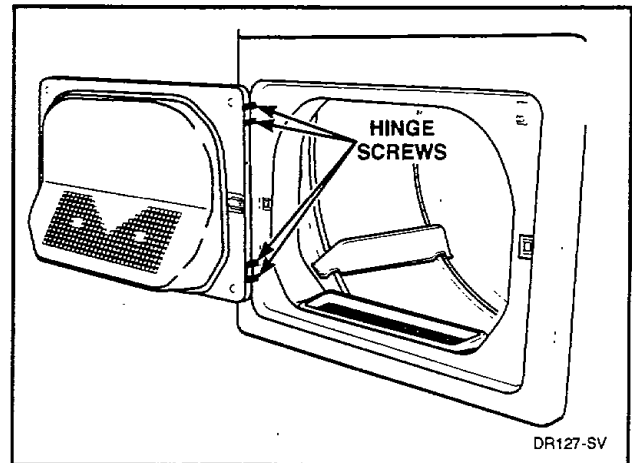

Figure 21
- i. While supporting door assembly, secure hinges to front panel using the four remaining screws, *Figure 21*. Tighten all screws firmly.